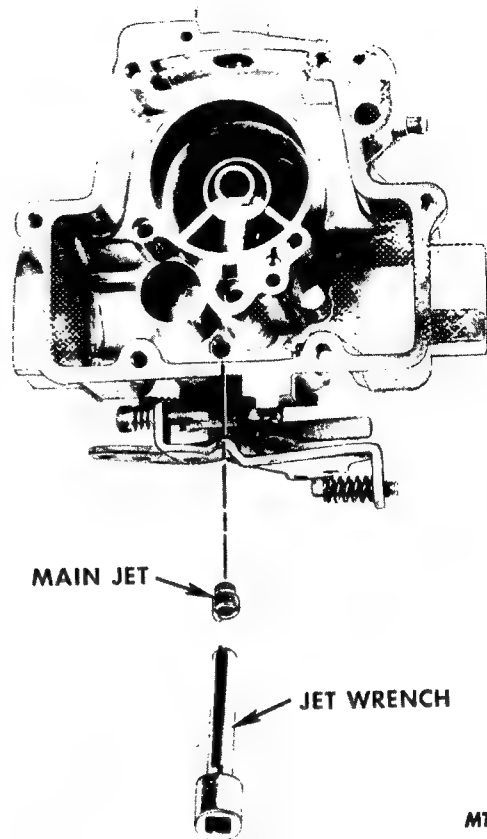

FIG. 22 Remove or Install Main Jet
3. Remove the main jet with a jet wrench. A 3/8" wide square point screwdriver may be used (Fig. 22).